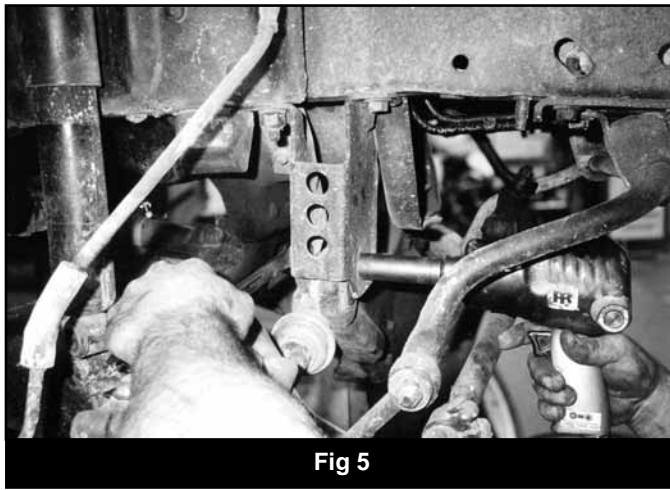

Fig 5
9. Remove the existing driver's side axle pivot bracket. **Note: Located on the passenger side.** Remove pivot bolt and the five upper bolts and remove the bracket. (Fig. 5)